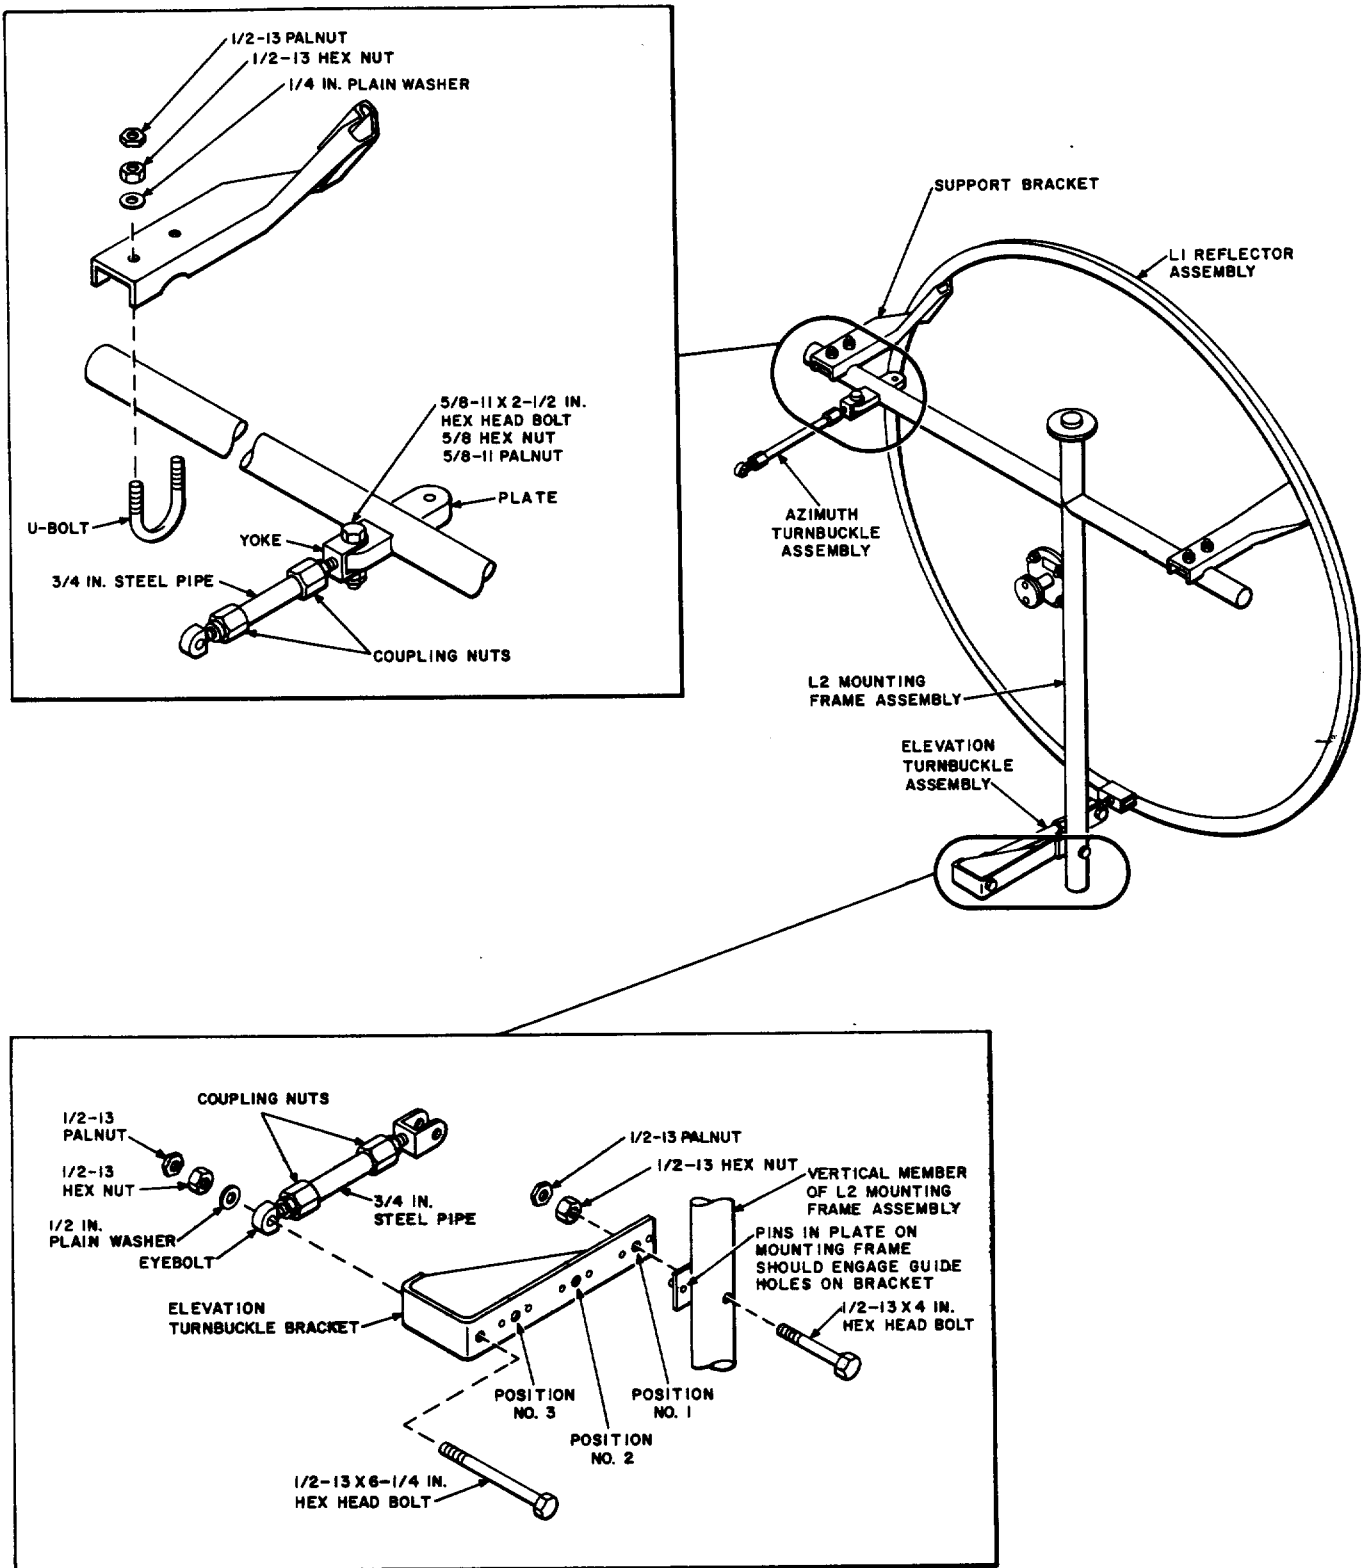

Fig. 4—Azimuth and Elevation Turnbuckle Assemblies
**4.07** The azimuth adjustment turnbuckle assembly (Fig. 4) is attached to the horizontal arm of the antenna mounting frame assembly. This turnbuckle normally is supplied with a pipe length of 10 inches for a range of azimuth adjustment as shown in Table A. If a greater azimuth range is necessary, a longer pipe length may be substituted for the 10-inch length. Table A includes the azimuth adjustment possible with a 20-inch pipe length. A 20-inch pipe is supplied with the elevation adjustment turnbuckle and may be used with the azimuth turnbuckle if required.
4.09 The elevation adjustment turnbuckle assembly (Fig. 4) is attached between the lower rim of the antenna reflector and the elevation turnbuckle bracket on the mounting frame assembly. This
three positions to vary the elevation adjustment range as shown in Fig. 4. Table B includes adjustment ranges possible with different bracket positions.
**4.14** The L2 mounting frame assembly is reversible, ie, it may be used with the vertical member either to the right or to the left of the center of the antenna. Local supervision shall review the antenna orientation plan to determine if the reflector is mounted on the correct side of the mounting frame assembly. If the position of the reflector must be changed, the following procedures should be used, (See Fig. 4):